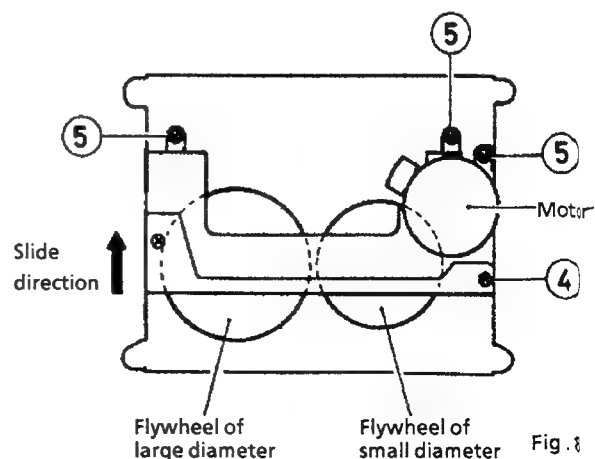

Fig. 8
1. Remove the 4 screws ④ and ⑤ fixing the FM bracket.
2. Remove the FM bracket by sliding it to the left (Fig.8)